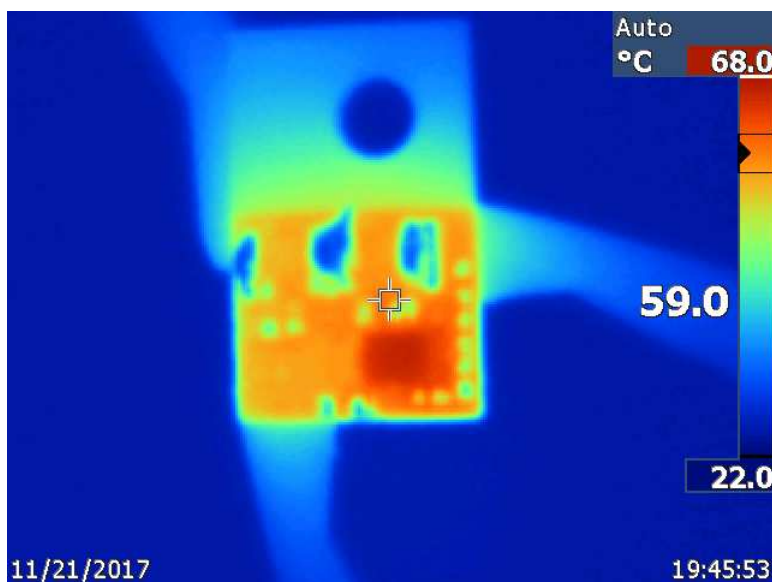

图 16. Thermal Image at 24 V_{IN}, 5 V_{OUT}, 300 mA I_{OUT}
The infrared (IR) thermal image in 图 16 was taken at the steady state with 24 V_{IN} and the LMR36006 output at a load of 300 mA (no airflow). The ambient temperature is approximately 22°C. The maximum IC temperature is 68°C.